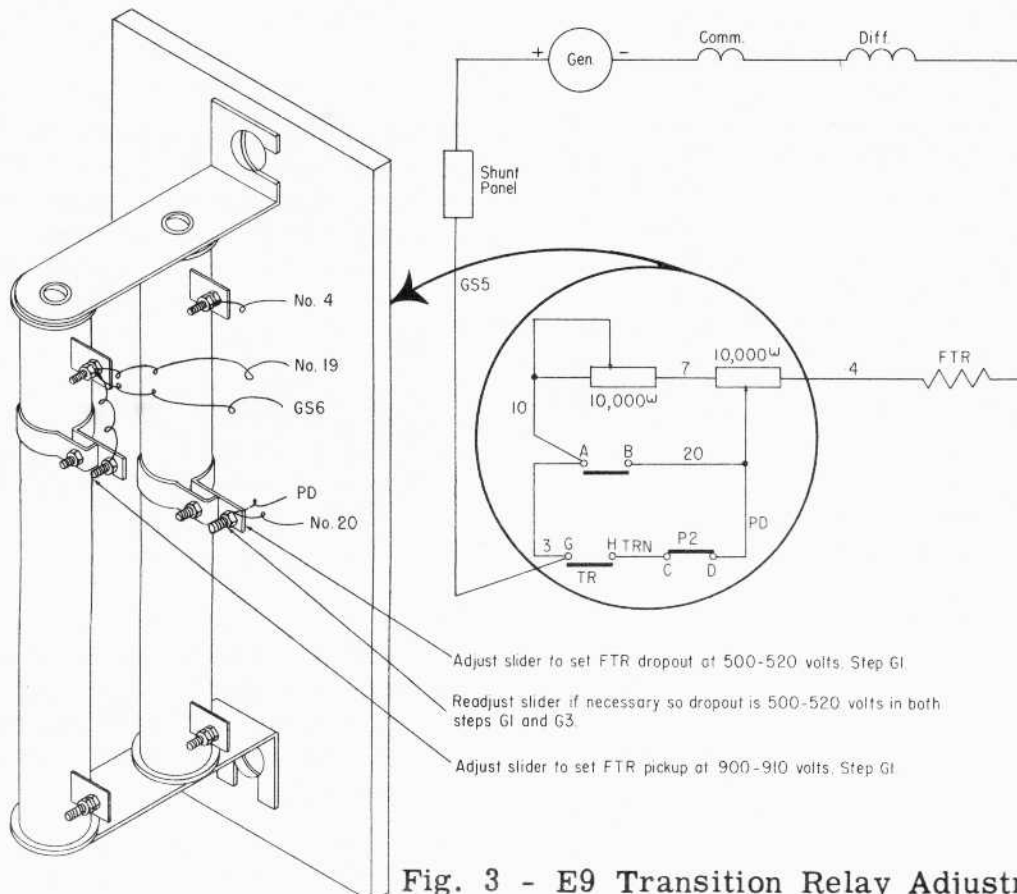

Fig. 3 - E9 Transition Relay Adjustments
1. After completing operations given under Section E, increase motor-generator set voltage and check pickup of FTR relay. Adjust pickup of FTR with resistor slider to value shown in Fig. 3. Decrease test set voltage until FTR relay drops out. Adjust FTR relay dropout with resistor slider to value shown in Fig. 3.
3. Reduce test set voltage until FTR relay drops out causing FS contactor to open. Check dropout value of FTR relay with FSD-ab interlock closed. Adjust, if necessary, by setting resistor slider to value shown in Fig. 3.